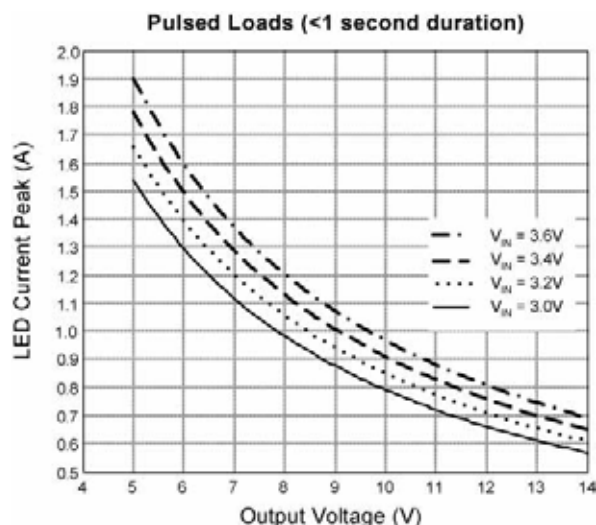

Figure 8. Peak Output Current vs.  $V_{OUT}$
The SOA (safe operating area) of the MIC2299 is shown in the typical characteristics section. This graph represents the maximum continuous output power capability of the part when used on a minimal evaluation board layout. This is a 2 layer board of 1 ounce copper, utilizing the bottom layer as a ground plane heat sink. The total area of the GND copper is approximately 1.3 square inches. This approaches a thermal resistance of 45°C/W. An alternative layout with more copper area for heat sinking will increase the area under the SOA curve. Note that the SOA is for continuous power and not peak power and is effectively a thermal limitation. The SOA is true for a time constant of approximately >1 seconds. Therefore, any load transient with a period of < 3s can exceed the SOA curve power up to a maximum limited by the current limit of the MIC2299. Figure 8 shows the theoretical output current limit of the MIC2299 using the Evaluation Board inductor value of 2.2μH with a DCR 50mΩ.
- The time constant of the driver is <3 seconds, so we can look at the peak current capability of the driver in Figure 8.
- Looking at Figure 8, the MIC2299 can achieve more than the required 800mA peak current at 8.4V